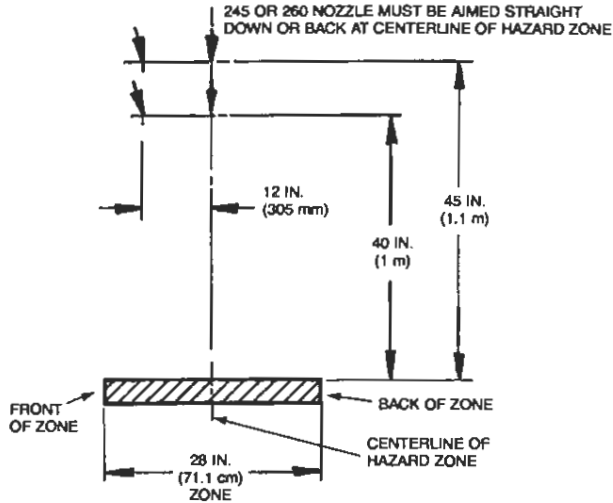

FIGURE 94
3. The overlapping appliance nozzles must be located 40 in. to 45 in. (1 m to 1.1 m) above the top surface of the protected appliances. See Figure 94.
- 4. The overlapping appliance nozzles must be located 0 in. to 12 in. (0 cm to 30.5 cm) forward of the centerline or airline of the selected hazard zone. See Figure 94.